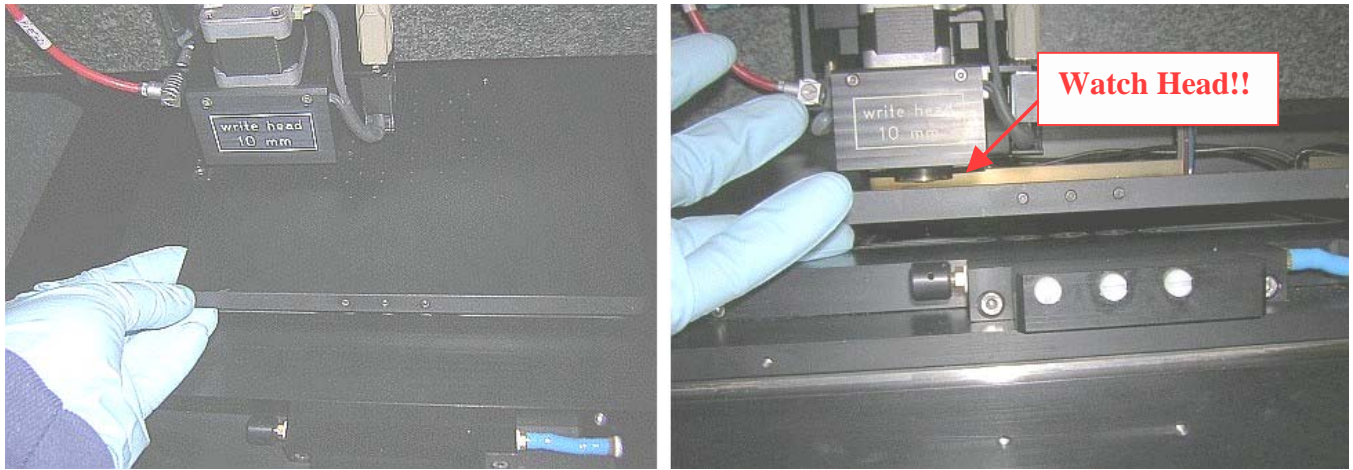

Figure 2-17: Carefully lift and slide out chuck
- ❖ **System:** Lift and slide out the chuck (figure 2-17). **Warning:** Do not bump the chuck into the write head when sliding it out.